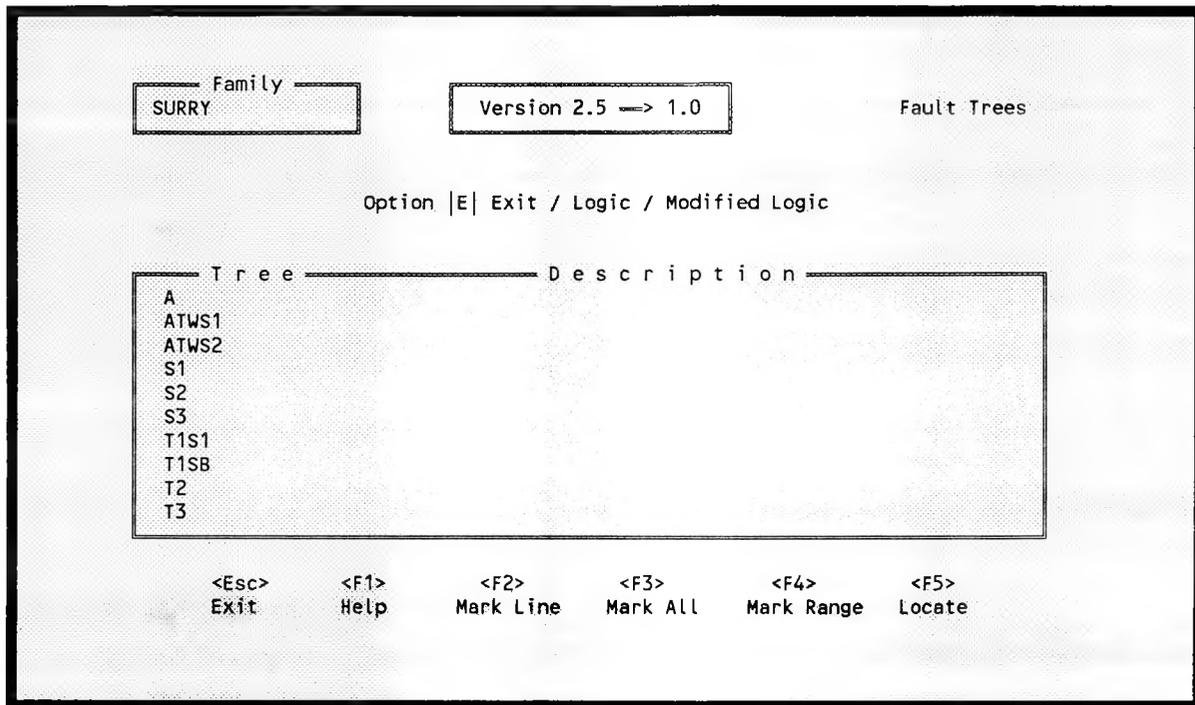

Figure 337. Logic vs modified logic values.
10.5.3.2 Fault Trees. This option allows you to output fault tree logic generated in Version 2.5 to a Version 1.0 compatible format (as ".TRE" files). To invoke this option, type a <T> in the option field, or highlight "Fault Trees" and press <Enter> or <->. Figure 337 will be displayed listing all the fault trees in the current family. On this screen, you have three options: Exit, Logic, or Modified Logic.